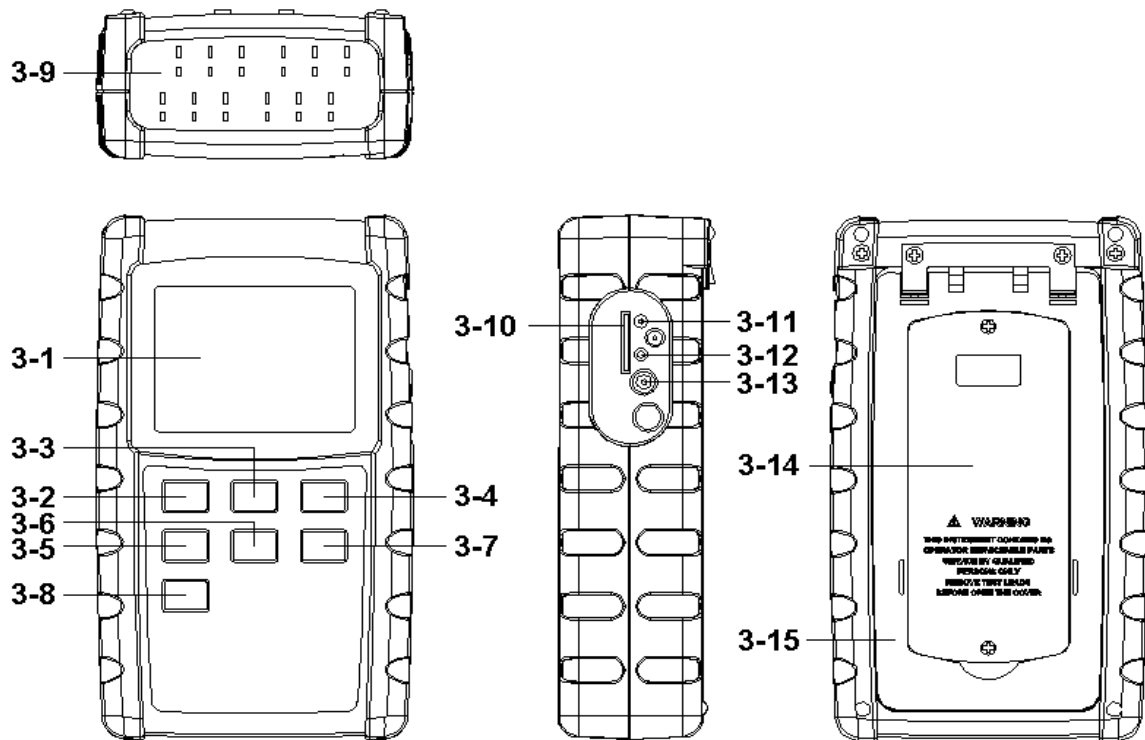

Fig. 1
- 1) Power on the meter by pressing the " Power button " (3-2, Fig. 1) once.
- 3) Insert the Type K probes into the " T1, to T12 input socket " (3-9, Fig. 1).
If intend to show the other 4 channels (CH9, CH10, CH11, CH12) temperature value, just press the " Page Button " (3-6, Fig. 1) once , the Display will show those channels' Temp. value following, press the " Page Button " (3-6, Fig. 1) once again, the Display will revert to the 8 channels (CH1, CH2, CH3, CH4, CH6, CH7, CH8) screen.
All the measuring procedures are same as the Type K (chapter 4-1), except to select the Temp. Sensor type to " Type J, T, R, S " by pressing the " Type Button " (3-5, Fig. 1) once in sequence until the up LCD display show the " J, K,T, E, R, S " indicator.
During the measurement, press the " Hold Button " (3-3, Fig. 1) once will hold the measured value & the LCD will display a " HOLD " symbol.
1) The data record function records the maximum and minimum readings. Press the " REC Button " (3-4, Fig. 1) once to start the Data Record function and there will be a " REC " symbol on the Display.
a) Press the " REC Button " (3-4, Fig. 1) once, the " REC MAX " symbol along with the maximum value will appear on the Display.
If intend to delete the maximum value, just press the " Hold Button " (3-3, Fig. 1) once, the Display will show the " REC " symbol only & execute the memory function continuously.
- b) Press the " REC Button " (3-4, Fig. 1) again, the " REC MIN " symbol along with the minimum value will appear on the Display.
If intend to delete the minimum value, just press the " Hold Button " (3-3, Fig. 1) once, the Display will show the " REC " symbol only & execute the memory function continuously.
After power ON, the " LCD Backlight " will light automatically. During the measurement, press the " Backlight Button " (3-2, Fig. 1) once will turn OFF the " LCD Backlight ".
insert the SD card into the " SD card socket " (3-10, Fig. 1).
Press the " REC Button (3-4, Fig. 1) once , the LCD will show the text " REC ", then press the " Logger Button " (3-7, Fig. 1), the " REC " will flashing and beeper will sound, at the same time the measuring data along the time information will be saved into the memory circuit.
During execute the Datalogger function , if press the " Logger Button " (3-7, Fig. 1) once will pause the Datalogger function (stop to save the measuring data into the memory circuit temporally). In the same time the text of " REC " will stop flashing.
If press the " Logger Button " (3-7, Fig. 1) once again will execute the Datalogger again, the text of " REC " will flashing .
During pause the Datalogger, press the " REC Button " (3-4, Fig. 1) continuously at least two seconds, the " REC " indicator will be disappeared and finish the Datalogger.
Press the " REC Button (3-4, Fig. 1) once , the LCD will show the text " REC ", then press the " Logger Button " (3-7, Fig. 1) once, the " REC " will flashing once and Beeper will sound once, at the same time the measuring data along the time information and the Position no. will be saved into the memory circuit.
- * During execute the Manual Datalogger, press the " ▲ Button " (3-5, Fig. 1) once will enter the " Position /Location no. setting. use the " ▲ Button " or " ▼ Button " (3-6, Fig. 1) to select the measuring location no. (1 to 99, for example room 1 to room 99) to identify the measurement location. After the position no. is selected, press the " Enter Button " (3-4, Fig. 1) once will save the Position/Location no. automatically.*
Press the " REC Button " (3-4, Fig. 1) continuously at least two seconds, the " REC " indication will be disappeared and finish the Datalogger.
During the normal measurement (not execute the Datalogger), If press " Time check Button " (3-8, Fig. 1) once , the left lower LCD display will present the time information of Year/Month, Date/Hour, Minute/Second in sequence.
During the normal measurement (not execute the Datalogger), If press " Sampling time check Button " (3-7, Fig. 1) once , the left lower LCD display will present the Sampling time information in second unit.